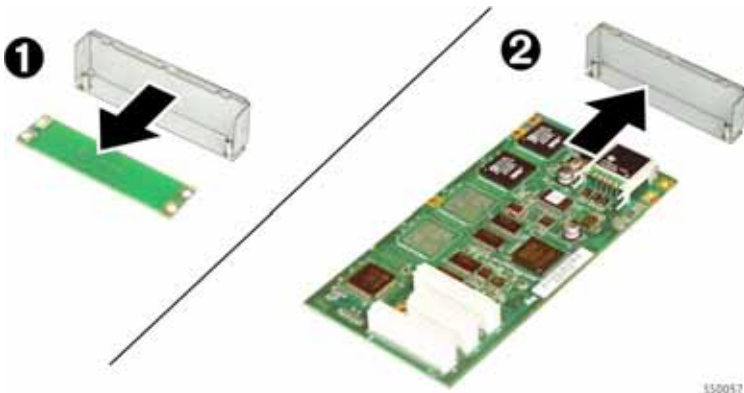

Figure 37: Attaching Cover Plate to the DSP Module
- If a cover plate is attached to the module (for example, DSP module) remove it and install it on the replacement module (see Figure 37).